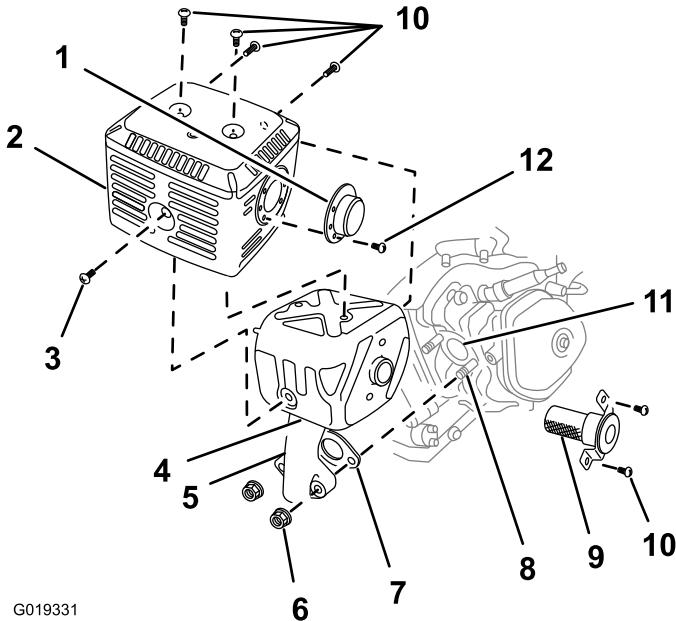

Figure 45
5. Remove the 2 nuts (8 mm) and remove the muffler from the cylinder (Figure 45).
6. Remove the 3 screws (4 mm) from the exhaust deflector, and remove the deflector (Figure 45).
7. Remove the screws (5 mm and 6 mm) from the muffler protector, and remove the muffler protector (Figure 45).
8. Remove the screws (4 mm) from the spark arrester, and remove the spark arrester from the muffler (Figure 45).